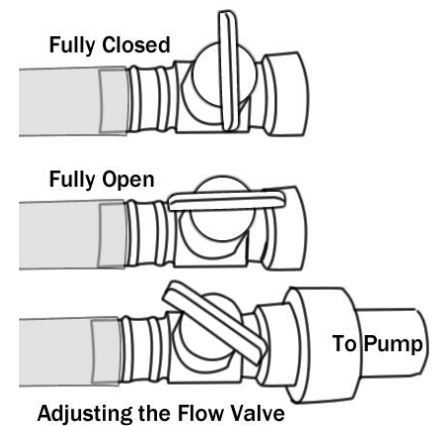

Fig 10.1
1. After mounting your fountain to the wall, fill the reservoir (L) with water (distilled water is strongly recommended). The water level must always be maintained at least 1" above the pump. If the water level drops below the pump, splashing and damage may occur.
2. Before turning on your fountain for the first time make certain the flow adjusters on all pumps are open, having the flow valve in a closed position puts excessive pressure on the pump and may cause it to overheat and break. The flow valve lets you increase or decrease the amount of water flowing over the waterfall (Fig 10.1). You will need to adjust the flow valve to the proper rate for solid water coverage but not so fast that it causes splashing.
4. Install the Rock Tray (N) and spread Rocks (I) equally throughout the tray. Do not sit or pile any stones up against the stone slabs as this may cause minor splashing.